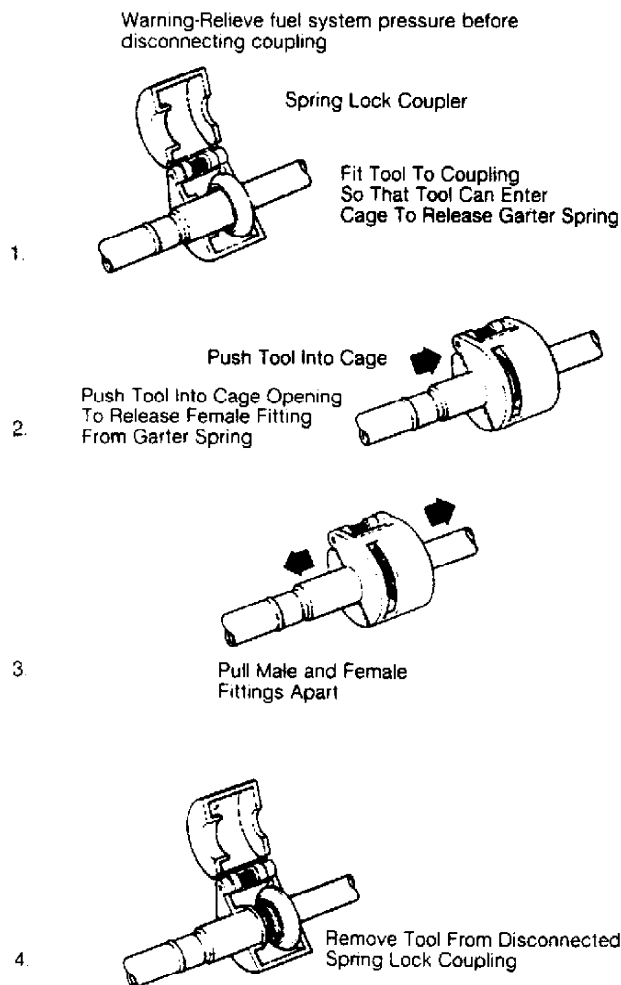

Fig. 11: Disconnecting Spring Lock Coupler (Navajo)
1) Release fuel system pressure. See FUEL SYSTEM PRESSURE RELEASE. Remove locking (safety) clip (if equipped). Place Spring Lock Coupler Releaser (49UN01051 for 3/8" line; 49UN01052 for 1/2" line) over fuel line coupler. See Fig. 11.